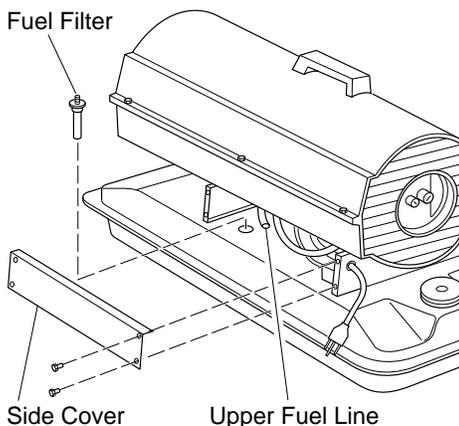
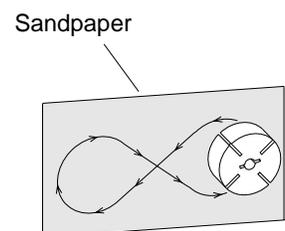

Figure 8 - Fuel Filter Removal
Figure 17 - Sanding Rotor
3. Remove 4 side cover screws with a 5/16" nut driver. Remove side cover (see Figure 8).
12. Replace side cover (see Figure 8).
14. Place fine grade sandpaper (600 grit) on flat surface. Sand rotor lightly in "figure 8" motion four times (see Figure 17).